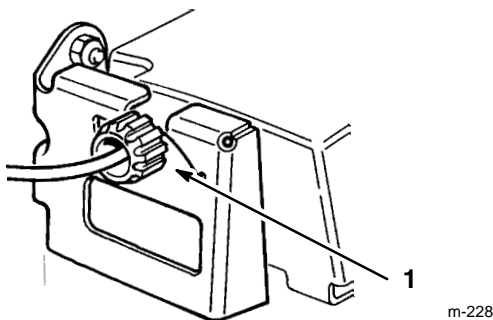

Figure 22
2. **ADJUSTMENT** (Fig. 22)—Rotate control knob clockwise 1/2 turn if mower does not self-propel. If mower creeps forward, rotate knob 1/2 turn counterclockwise to loosen belt.